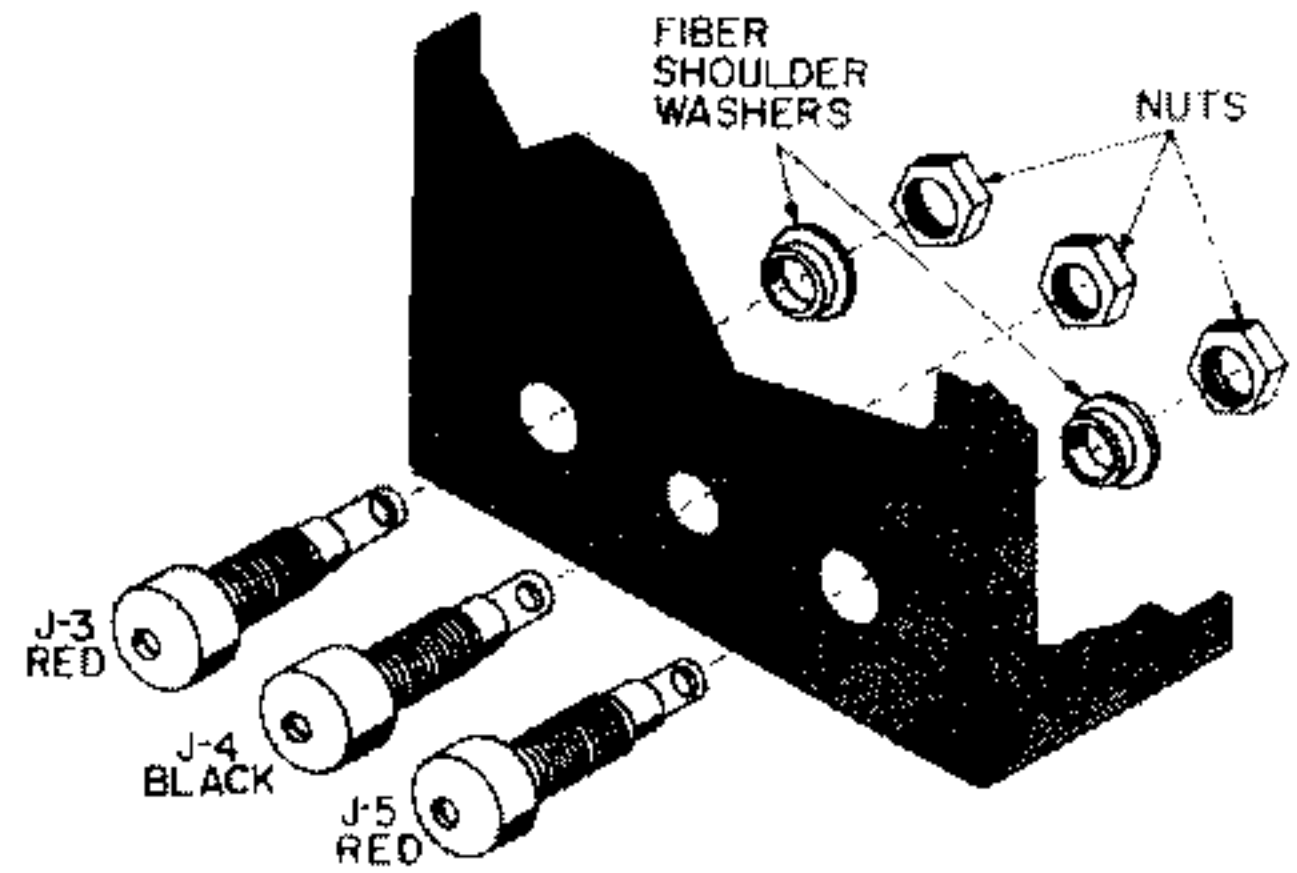

FIGURE 4. PIN JACK MOUNTING
- Mount J-3, one of the red pin jacks, in the hole marked SIG ADJ. Use a fiber shoulder washer and a nut to hold J-3 in place. See Figure 4.
- In a like manner, mount J-5, a red pin jack, in the hole marked NULL. See Figure 4.
- Mount J-4, the black pin jack, in the hole marked GND. DO NOT use a fiber shoulder washer. See Figure 4.